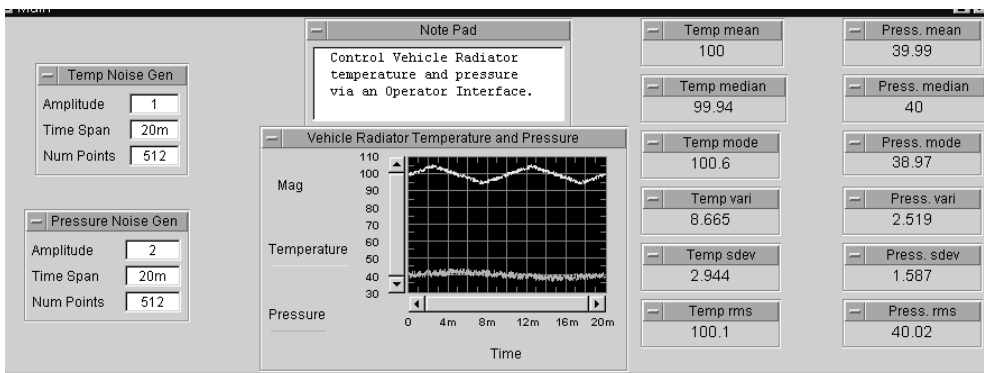

Figure 8.10. The Vehicle Radiator operator interface displaying statistics
21. Select Menu Bar => Edit => Add to Panel; arrange the icons as shown in Figure 8.10.